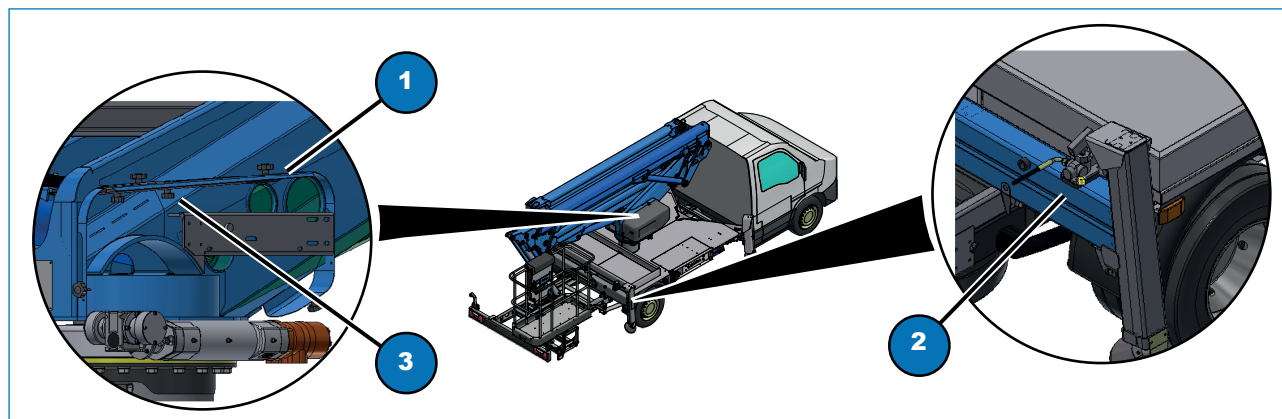

Fig. 5.4
The manual emergency pump (Fig. 5.4, 2) is installed on the frame's rear extension.
- Remove the lever (Fig. 5.4, 1) from the right hand side of the turret by loosening the black locking knob (Fig. 5.4, 3) and attach it to the pump (Fig. 5.4, 2);
- Manually operate the lever of the emergency hand pump (Fig. 5.4, 2) and at the same time operate the electrical controls on the control panel.